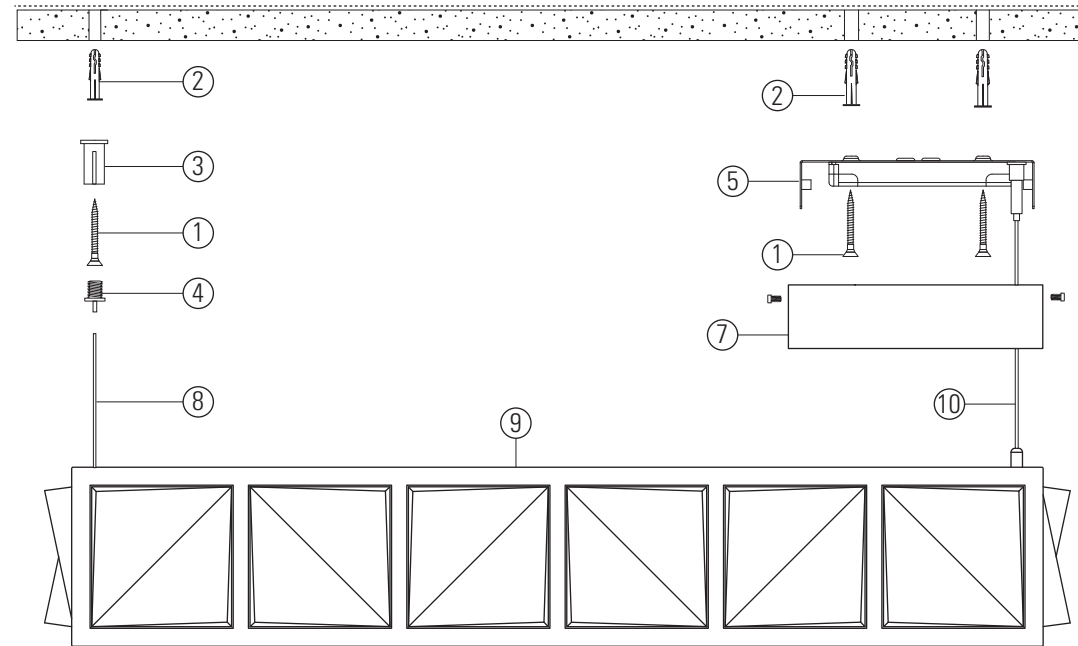

Fig 1.
2. Feed the mains supply cable through one of the rubber grommets in the ceiling plate. See Fig 1.
4. Remove the primary end driver terminal cover and connect the mains supply cable to the driver See Fig 1. For wiring details see overleaf in Safety and Installation Instructions.